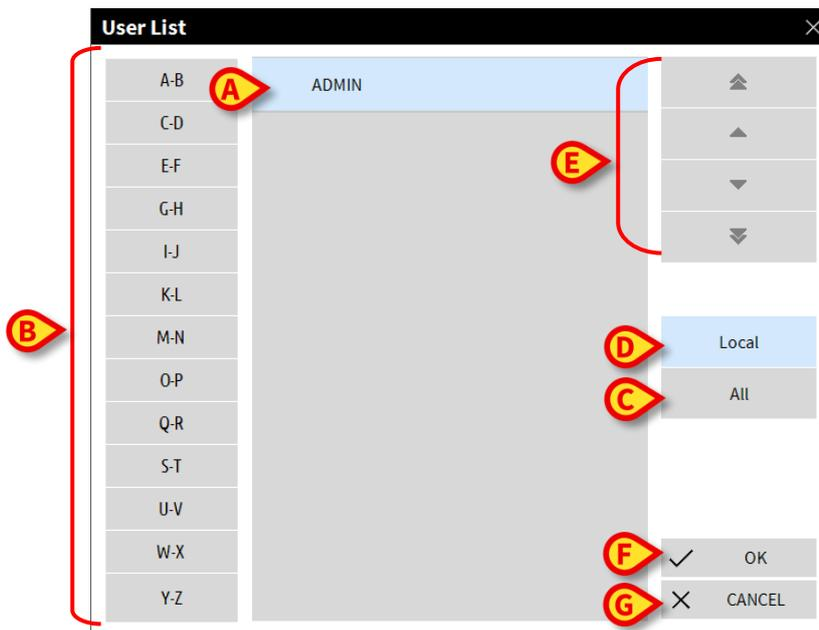

Fig 12
The following window is displayed (Fig 12).
The window shown in Fig 12 can be used as an index book enabling the search and selection of a user in the list of all the possible users.
The central part of the window shows the names of possible users, in alphabetical order (Fig 12 **A**).
The letters on the left side of the window (Fig 12 **B**) work like an index and make it possible to see only the users whose names begin with a specific letter. For example: click the **C-D** button to see the list of patients whose names begin with the letters C or D.
Use the **All** button (Fig 12 **C**) to see the list of all possible users.
Use the **Local** button (Fig 12 **D**) to see the list of users relating to the specific workstation on which you are currently working.
Use the arrows on the right side of the window (Fig 12 **E**) to scroll up and down the list of users.
- Click the **Ok** button (Fig 12 **F**)
Use the **Cancel** button (Fig 12 **G**) to cancel the operation and close the “User list” window without selecting any user.